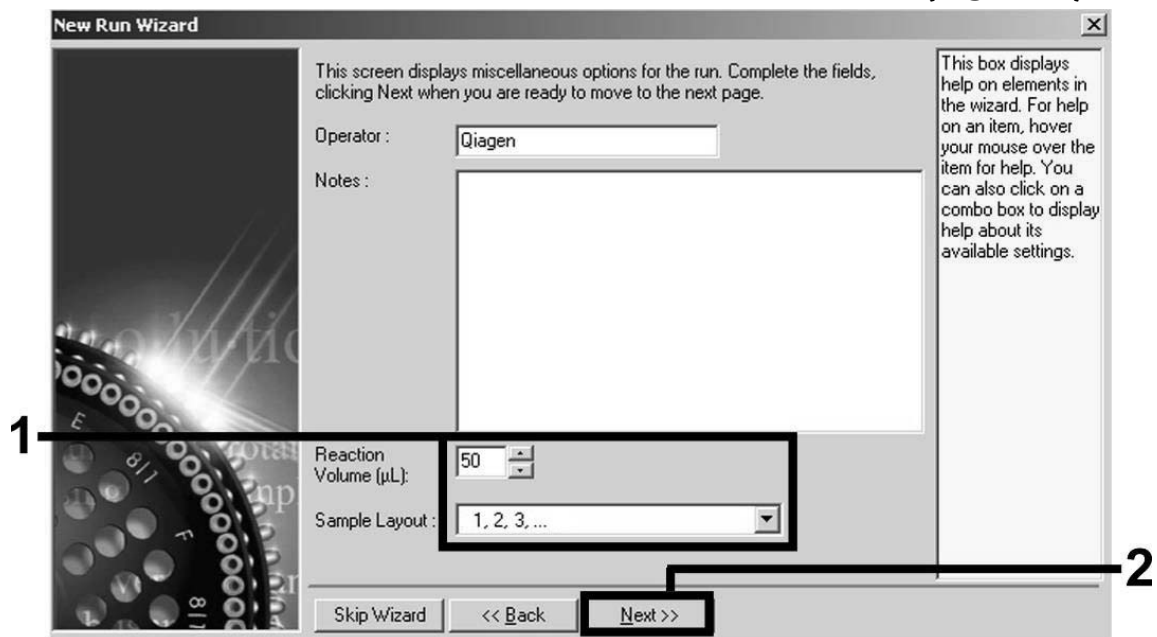

Figure 4. Setting the general assay parameters.
7. Select 50 for the PCR reaction volume and click “Next” (Figure 4).